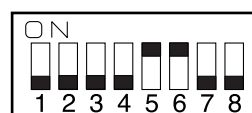

Figure 5-180
- 2) Set the DIP switch (SW1) on the ADF controller PCB as indicated in Figure 5-180.